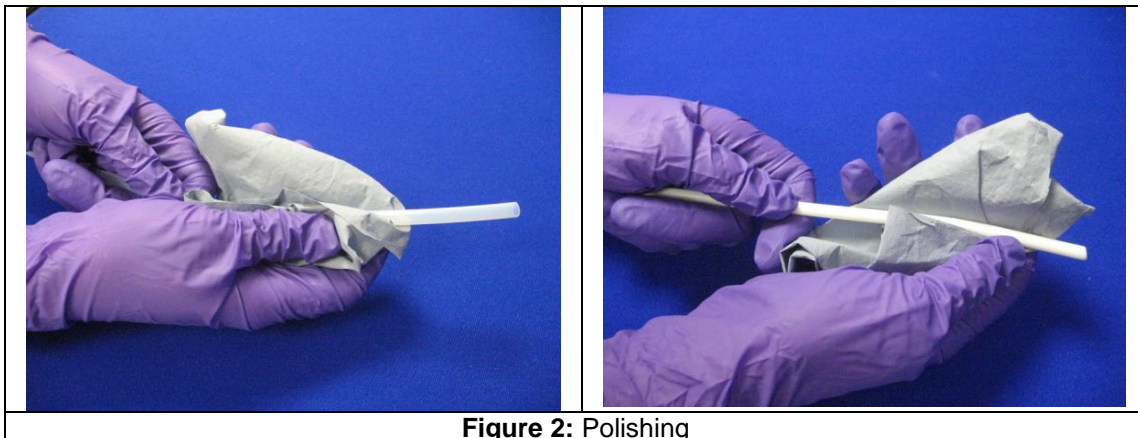

Figure 2: Polishing
- 3 Polish the length of PTFE tubing and a section of the PTFE rod with a clean piece of tissue paper (Figure 2).